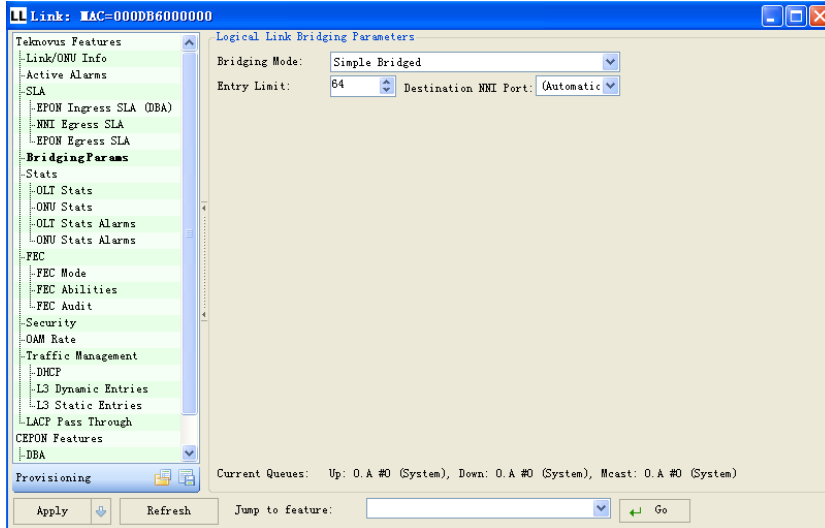

Figure 8-22 Window of Bridging Parameter Configuration
1. In the Link part of the GUI, click Bridging Params and display the window shown in the Figure 8-22;